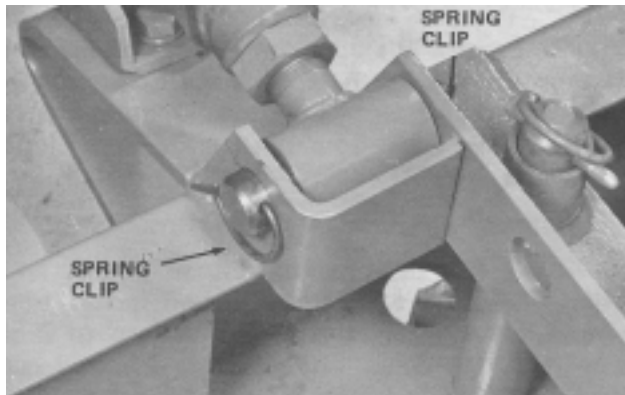

Figure 6
3. Retain pin, plow and lift socket together with spring clips (Fig. 6).